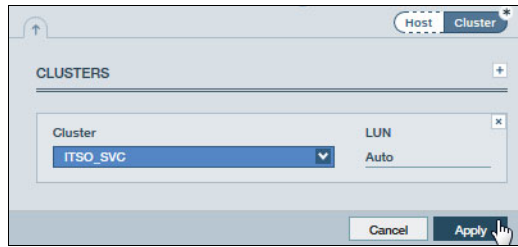

Figure 2-14 Mapping XIV volumes to the SAN Volume Controller
12. Select **Cluster** and click the **+** icon to map the volumes. Select the SAN Volume Controller cluster to map the volumes, as shown in Figure 2-14 and Example 2-11.